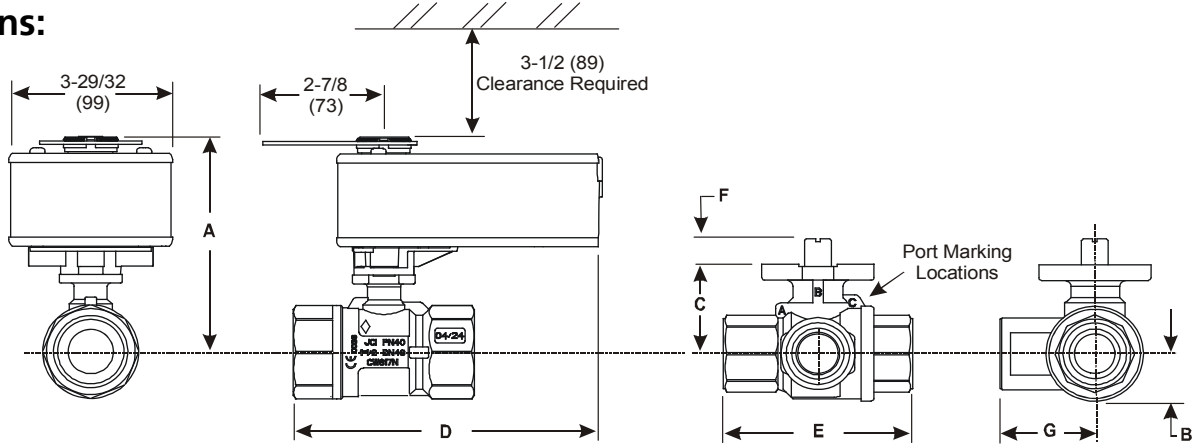

Figure 2: Spring Return VA(M)S-70 Series Ball Valves - Dimensions, in. (mm)
1. Port A must always be connected the coil (Figure 2).